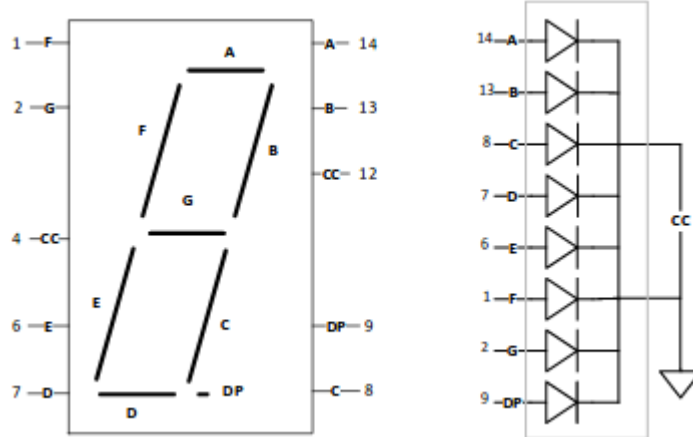

Figure 2: MAN 74 7-Segment Display
1.2. Fill in the truth table for the BCD-to-7-segment decoder shown in Table 1, e.g., if the input is 0011, LEDs a, b, c, d, and g should be on while LEDs f and e will be off. (See Figure 2 for reference).